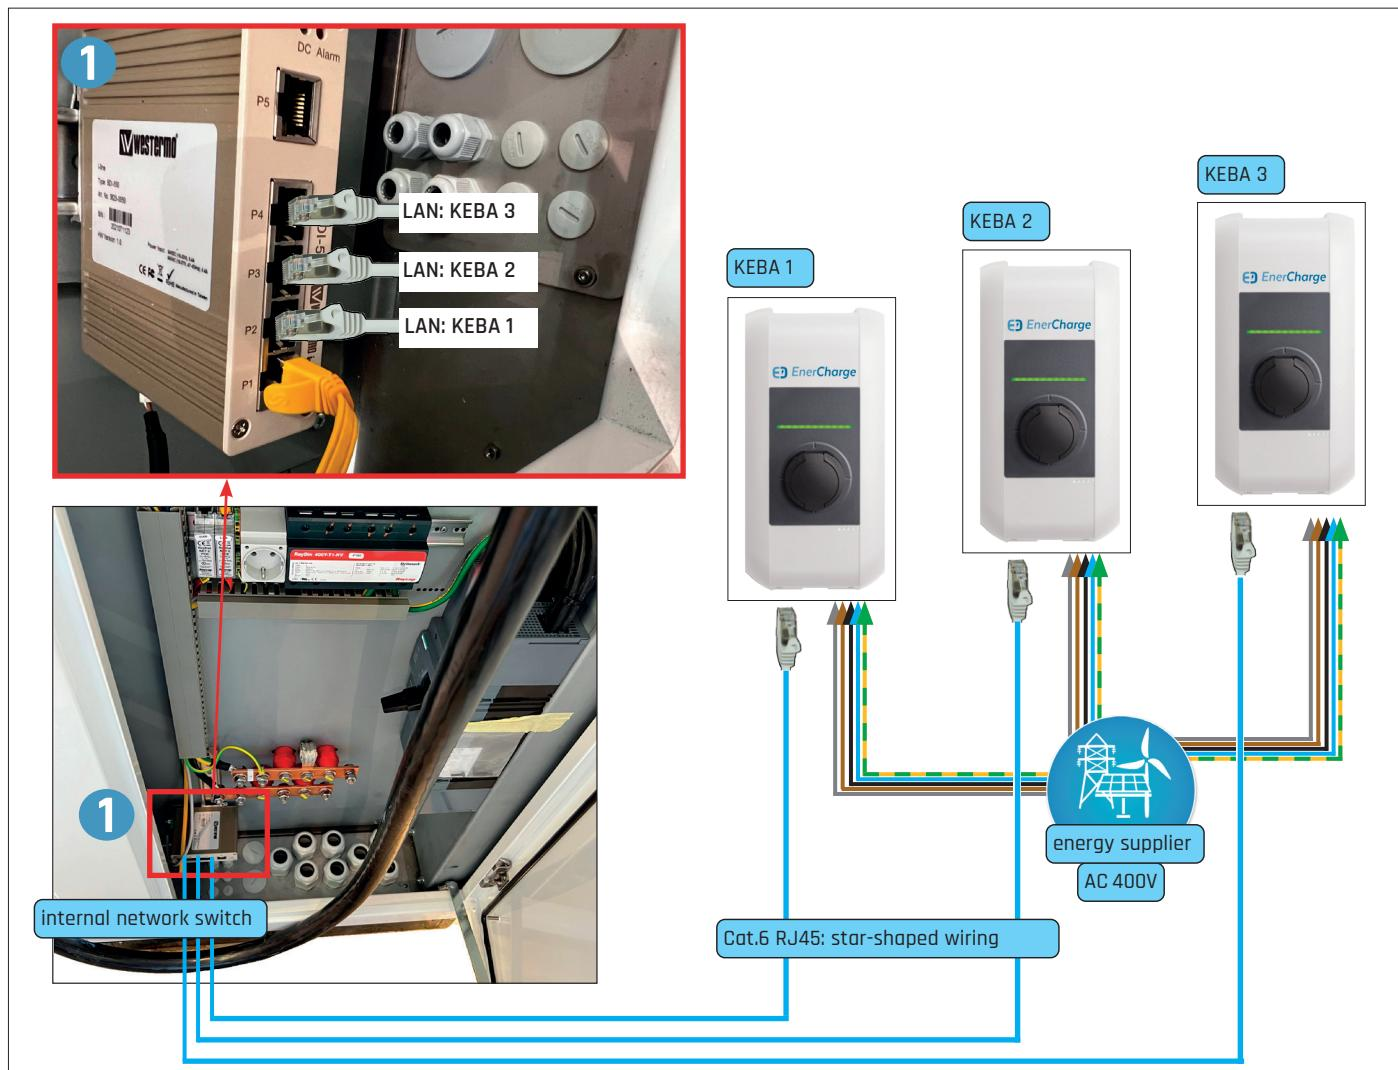

Fig. 33: Ethernet wiring diagram KEBA
- > A category 6 (Cat.6) Ethernet (RJ45) cable leads from the wallboxes (e.g. KEBA) to the internal network switch (optional equipment): see „Fig. 33: Ethernet wiring diagram KEBA“ on page 31.
- The wiring is executed "star-shaped" - see Fig. 33.